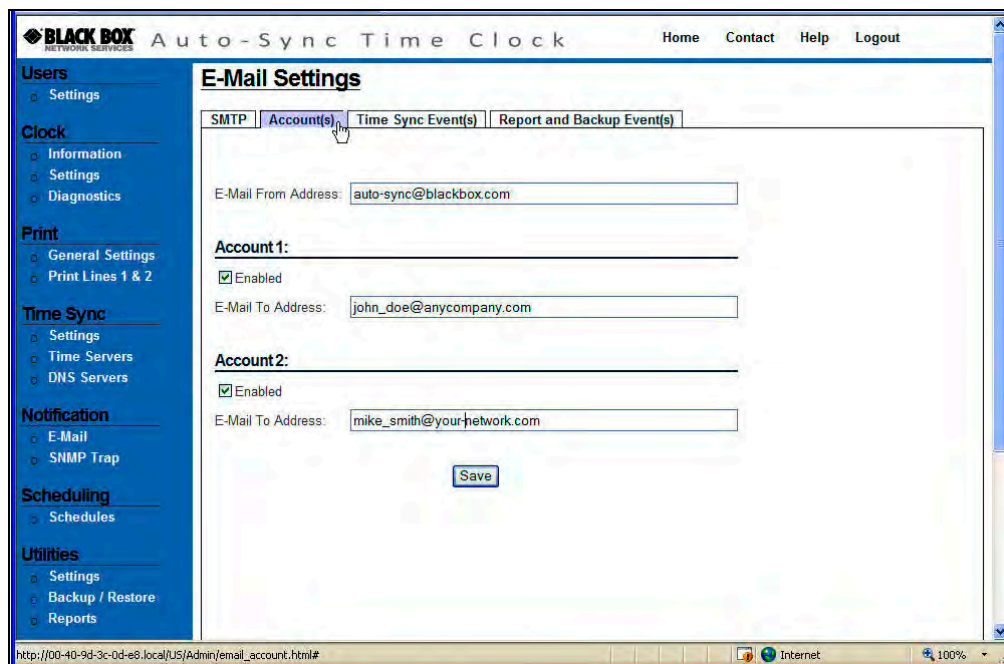

Figure 4-16. E-Mail Settings for Accounts.
5. Click on the **Account(s)** tab and the E-Mail screen to define e-mail destinations will appear (see *Figure 4-16*).